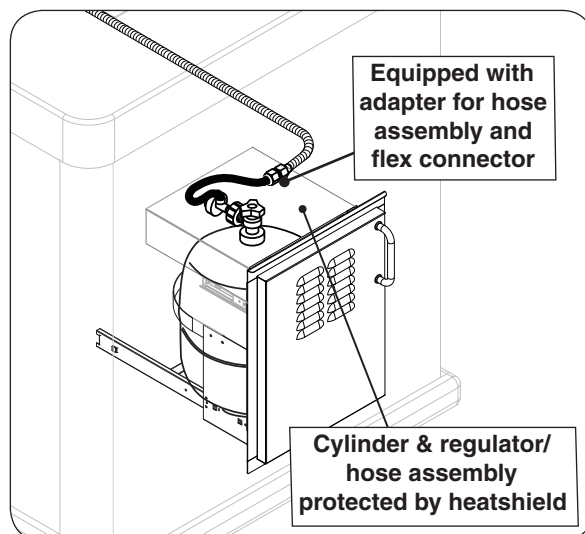

Fig. 11-3 Optional Fire Magic door w/ tank tray
- **Fire Magic offers a propane cylinder door with tank tray to meet the cylinder install requirements. See Fig. 11-3.**